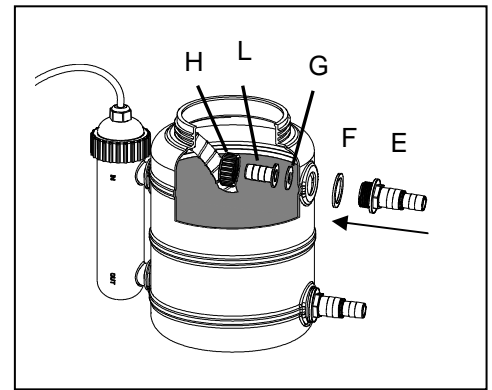

Fig. 4
4. Connect the small adapter to the adapter using the locking ring. Be sure to place the gasket between adapter and tank, place the small gasket between the small adapter and adapter. Fig. 4